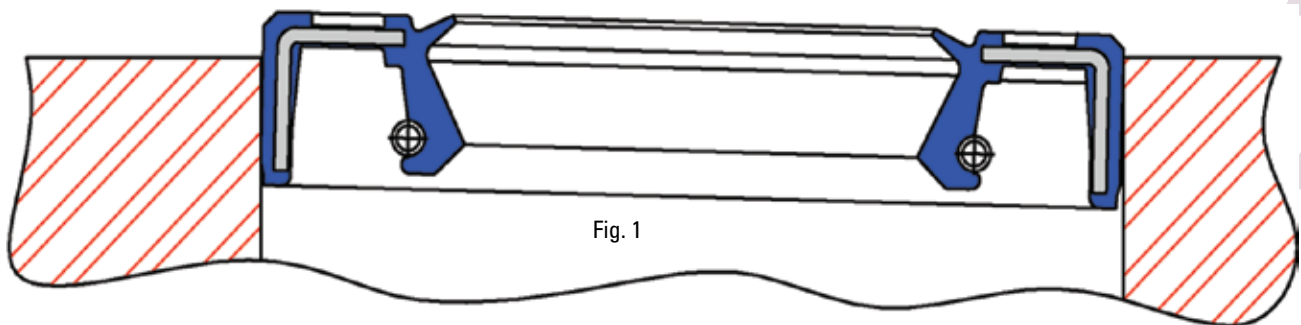

Fig. 1
1. Backward installation caused by lack of proper installation tool or visual aide (Fig. 1)